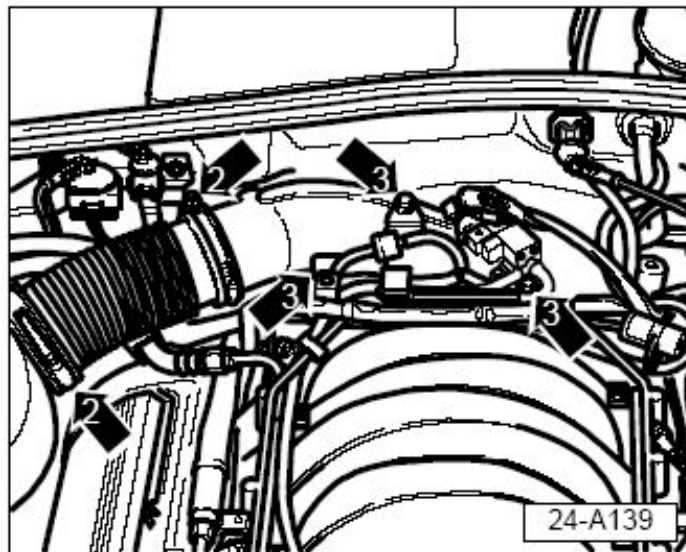

Figure 3. The clamps (2) and bolts (3).
9. Lower vehicle and remove intake air hose between Mass Air Flow (MAF) sensor and air intake elbow by loosening clamps (Figure 3, 2).
10. Remove three bolts (Figure 3, 3) securing solenoid plate assembly located rearward of the intake manifold.